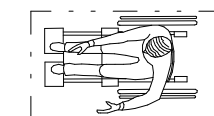

Figure 305.3 Clear floor or ground space
C. The clear floor or ground space shall be 30" minimum by 48" minimum. (Fig. 305.3)